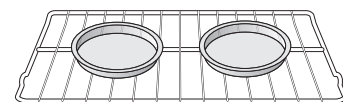

Fig. 4
5. While holding the connector arm in place, twist the connector arm so the ends of the connector arm point **upwards** (See Figs. 4 & 5). The connector arm should now be locked into position.